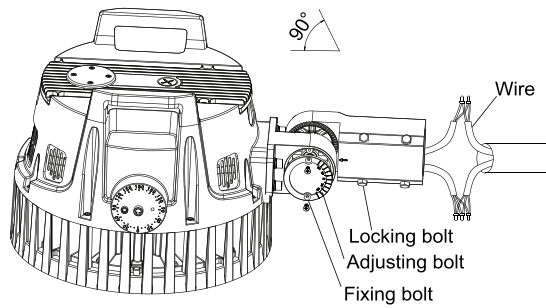
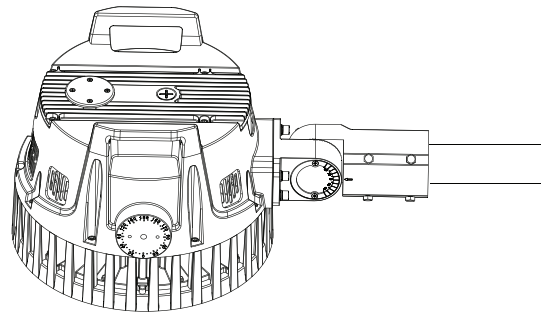

Figure 14
Figure 15
**ADJUSTABLE FITTER MOUNTING (AM)**
1. Loosen the 4 locking bolts on the slip fitter, connect the wire correctly and put the wire into pole. Then fasten the locking bolts between slip fitter and the pole. (Figure 14)
2. Loosen the fixing bolts and adjusting bolts, align the fixture to required angle. Tighten adjusting bolt and fixing bolts after the angle is confirmed. (Figure 15) Notice: Adjustable angle is 0-90° (Figure 14).